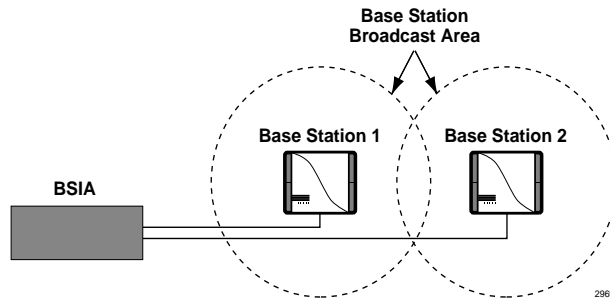
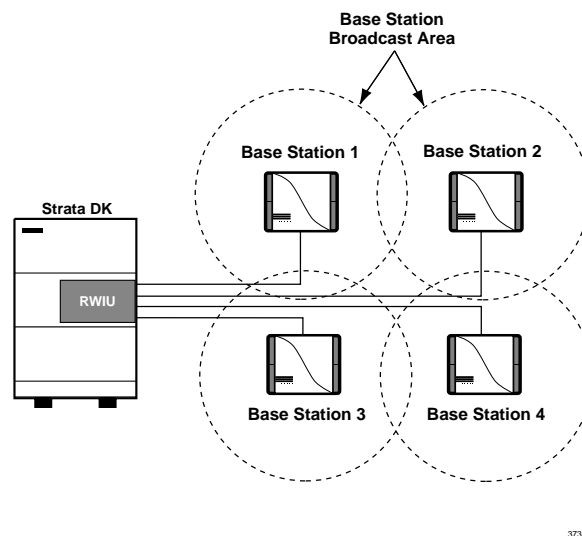

Figure 16-6 BSIA System with Two Base Stations
Figure 16-7 RWIU System with Four Base Stations
- ◆ Single BSIA system with two Base Stations (see Figure 16-6) or single RWIU system with four Base Stations (see Figure 16-7). The Base Stations are placed in locations that optimize the requirements of the system. For example, the Base Stations could be placed in the same general area or on separate floors, but with overlapping coverage